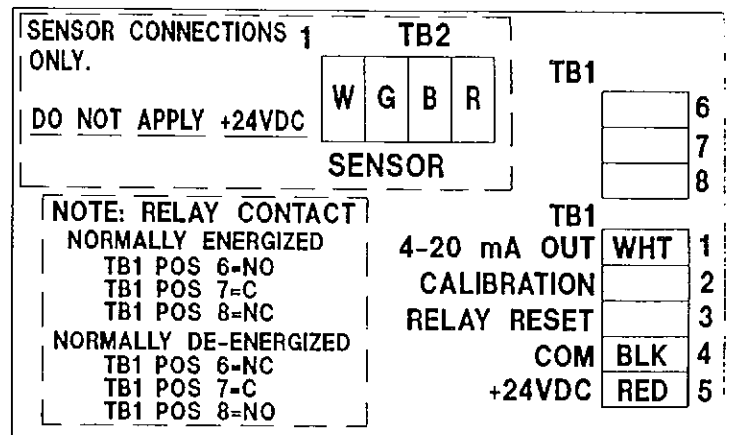

figure 8
The terminal blocks (TB) are located inside of the housing and can be accessed by removing the cover (figure 8). TB2 contains the four sensor connections, White (W), Green (G), Black (B), and Red (R). TB1 contains the connections for Power, Relay Contact, Remote Functions, and Output Signal.